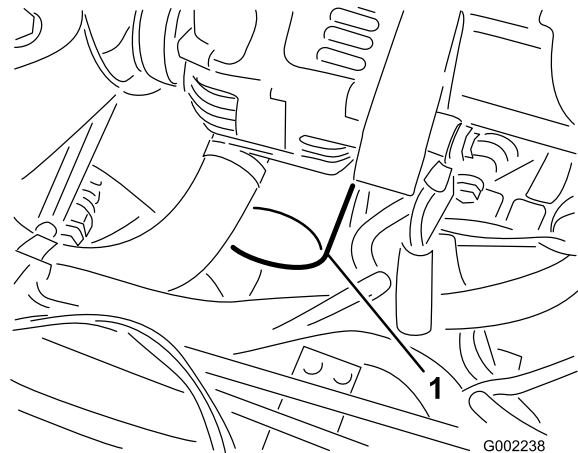

Figure 43
10. Install the replacement oil filter to the filter adapter. Turn the oil filter clockwise until the rubber gasket contacts the filter adapter, then tighten the filter an additional 1/2 turn (Figure 43).